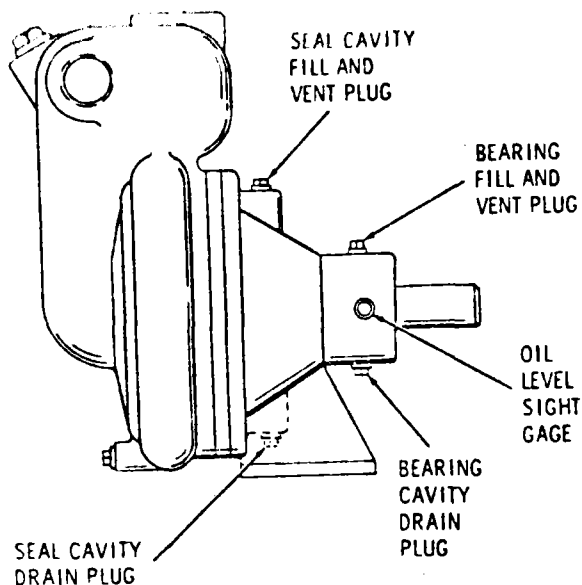

Figure 10. Fill and drain plugs for oil-lubricated bearings and seals.
- (1) Under normal operating conditions, grease-lubricated bearings have sufficient grease installed in the bearing housing for 5,000 hours of operation. Do not add grease sooner than required. Overgreasing will cause excessive preloading and overheating which will shorten the bearing life. When lubrication is required, use a good grade of number "0" pressure gun grease and fill the bearing cavity a maximum of 1/3 full or enough grease to bring the level to just below the shaft. Do not overfill the housing.
- (2) Under normal operating conditions, oil-lubricated bearings should be drained and refilled yearly; however, the oil level should be checked regularly. Do not oil sooner than required. Over-oiling will cause excessive preloading and overheating which will shorten the bearing life. When lubrication is required, use a good grade SAE No. 30 motor oil. Fill the bearing housing through the plug on the top of the housing nearest to the engine (see Figure 10). Add oil until the level can just be seen through the oil level sight gage. Do not overfill the housing. Make sure that the vented fill plug installed in the housing is not clogged with dirt.
- (1) All bearings operate at some temperature above that of the surrounding air due to heat generated by rolling and drag friction. Ball bearings can be operated safely at temperatures up to at least 180° F. However, temperatures up to 160° F are generally considered to be normal.
- (2) Do not attempt to check the temperature of the bearing by hand. This is not an accurate check. Bearing temperatures can be measured accurately by placing a contact-type thermometer against the frame or bearing housing. A stable temperature is an indication of normal operation. This temperature should be recorded in a convenient place for future reference.
- (3) A sudden increase in temperature is an indication of an impending failure and should be investigated. On grease-lubricated pumps add one shot of grease to the bearing housing. If this does not immediately reduce the temperature, do not add more grease since the bearing could be overlubricated. On oil-lubricated bearings, check to see that the oil is of the proper viscosity and that the oil level is neither too high nor too low. Bearing overheating can also be caused by unnecessary loads such as coupling misalignment, excessive vibration, or operating the pump against a closed discharge valve.
- (4) Occasionally, when pumps are first started, the bearings seem to run extremely hot. This high temperature is frequently caused by grease or oil seals which are not completely seated and not by the bearings. As soon as the seals have seated, the temperature will drop to a normal level.
a. Oil-Lubricated Mechanical Seal. The oil level in an oil-lubricated mechanical seal should be checked frequently. The cavity may become diluted with the liquid being pumped after two to three months of operation. When the oil becomes approximately 50 percent diluted or appears milky in color, drain the seal cavity and refill using SAE No. 30 motor oil (see Figure 10). Fill the seal cavity only until the oil level can be seen in the fill hole. Do not overfill the cavity. Make sure that vented fill plug on top of the housing is not clogged with dirt. Use only non-detergent oil in seal cavities.